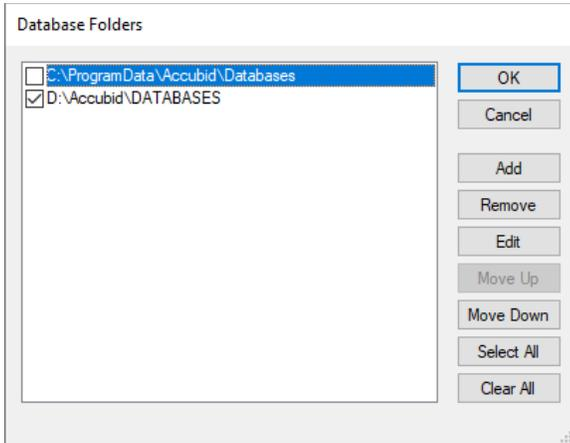

Figure 6
3. In the Database Folders window (Figure 6) use the Add button to select the folder location you choose.